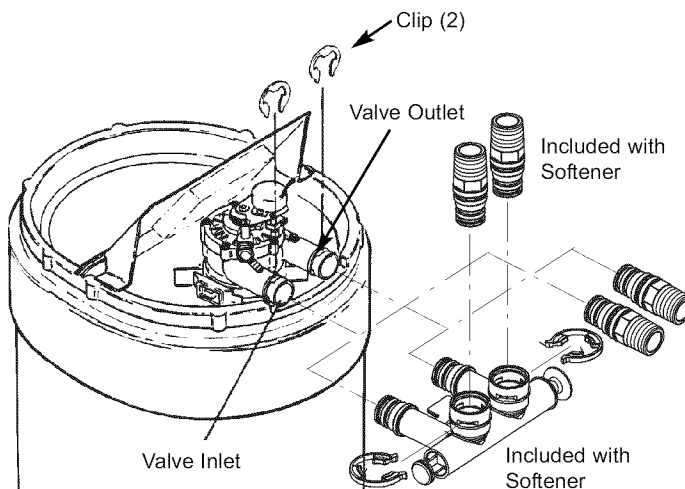
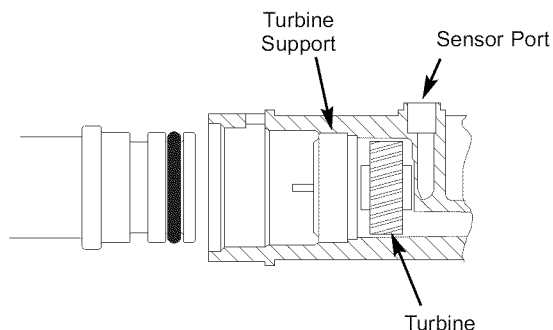

FIG. 9
FIG. 10
ALWAYS install the bypass valve (that is included with the unit) or a three valve bypass. See Fig. 9 to 13. Bypass valves let you turn off water to the softener if needed for repairs, but still have water in the house pipes.
5. Visually check and remove any foreign materials from the valve inlet and outlet ports. See Fig. 9. Carefully remove the two large plastic clips (you will use them). Check to be sure the turbine and turbine support are firmly in place. See Fig. 10.